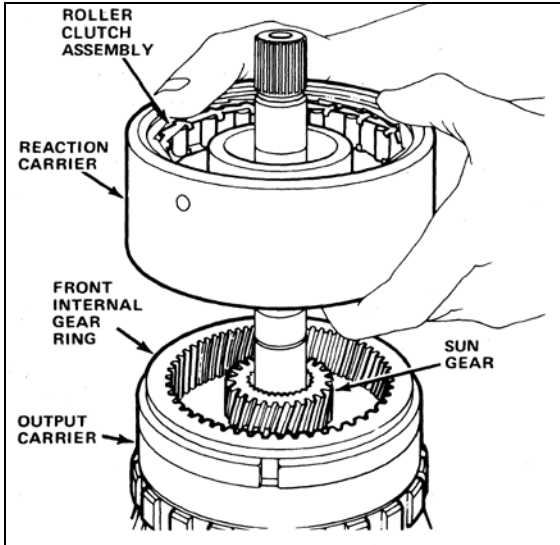
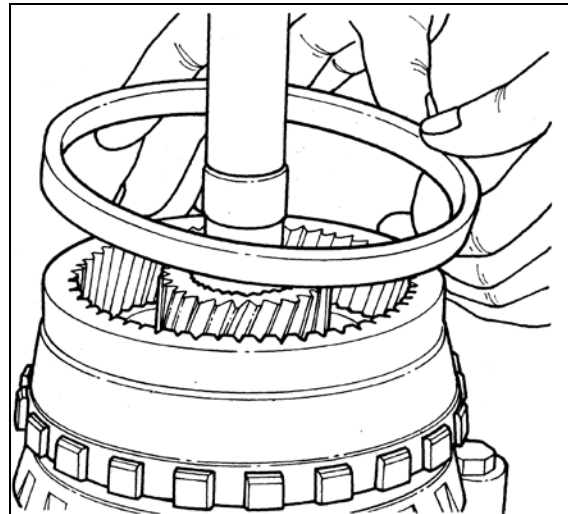

FIGURE 3-65
FIGURE 3-66
Lift the reaction carrier assembly (666) off the output carrier (675). See Figure 3-65. Remove the front internal gear silencer ring (673) from the output carrier (675). See Figure 3-66.